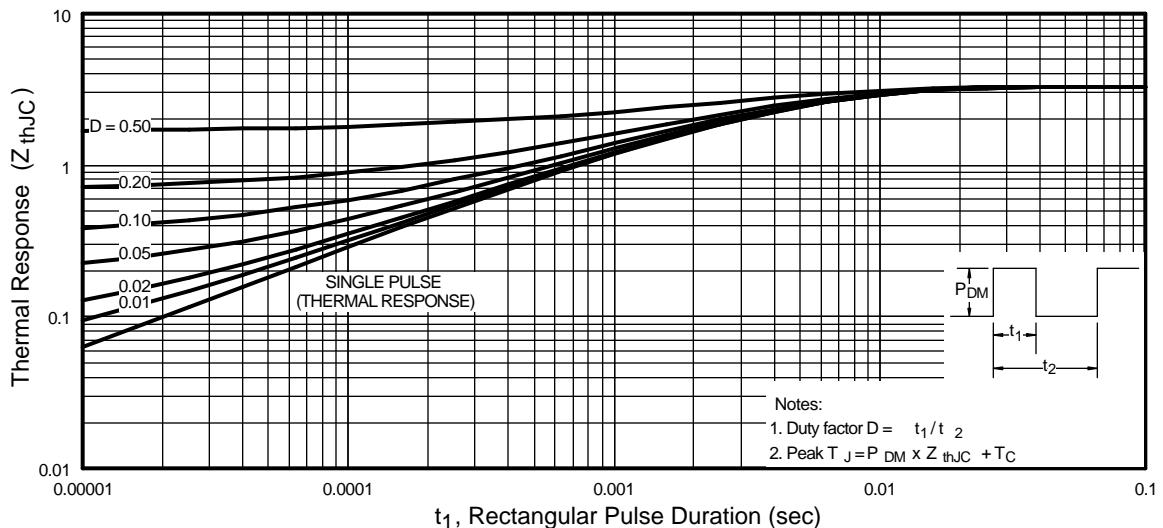

Fig 11. Maximum Effective Transient Thermal Impedance, Junction-to-Case
- ① Repetitive rating; pulse width limited by max. junction temperature. (See fig. 11)
② Starting $T_J = 25^\circ\text{C}$, $L = 2.8\text{mH}$